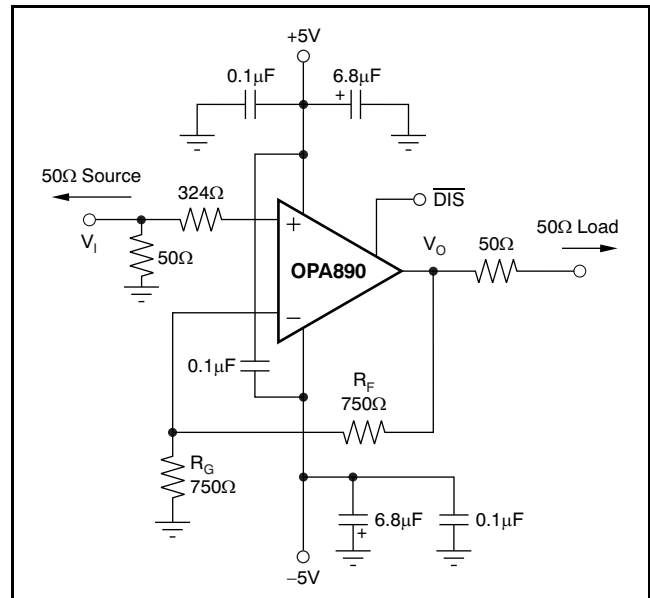
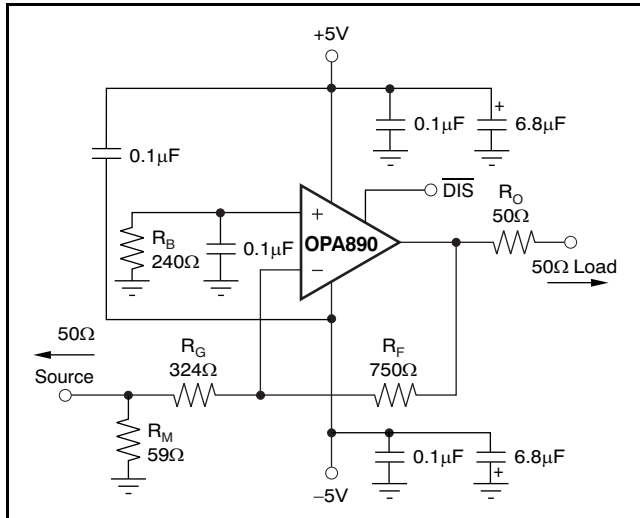

Figure 46. DC-Coupled, G = +2, Bipolar Supply, Specification and Test Circuit
Figure 51. Gain of $-2V/V$ Example Circuit
Figure 46 shows the dc-coupled, gain of +2, dual power-supply circuit configuration used as the basis of the ±5V Electrical Characteristics and Typical Characteristics. For test purposes, the input impedance is set to 50Ω with a resistor to ground and the output impedance is set to 50Ω with a series output resistor. Voltage swings reported in the Typical Characteristics are taken directly at the input and output pins, while output powers (dBm) are at the matched 50Ω load. For the circuit of Figure 46, the total effective load will be 100Ω – 1.5kΩ. The disable control line is typically left open to ensure normal amplifier operation. Two optional components are included in Figure 46. An additional resistor (324Ω) is included in series with the noninverting input. Combined with the 25Ω dc source resistance looking back towards the signal generator, this configuration gives an input bias current cancelling resistance that matches the 375Ω source resistance seen at the inverting input (see the DC Accuracy and Offset Control section). In addition to the usual power-supply decoupling capacitors to ground, a 0.1μF capacitor is included between the two power-supply pins. In practical printed circuit board (PCB) layouts, this optional-added capacitor typically improves the 2nd-harmonic distortion performance by 3dB to 6dB.
Voltage-feedback op amps exhibit decreasing closed-loop bandwidth as the signal gain is increased. In theory, this relationship is described by the gain bandwidth product (GBP) shown in the *Electrical Characteristics*. Ideally, dividing GBP by the noninverting signal gain (also called the noise gain, or NG) predicts the closed-loop bandwidth. In practice, this relationship only holds true when the phase margin approaches 90° , as it does in high-gain configurations. At low gains (increased feedback factors), most amplifiers exhibit a more complex response with lower phase margin. The OPA890 is compensated to give a slightly peaked response in a noninverting gain of $2V/V$ (see Figure 46). This compensation results in a typical gain of $+2V/V$ bandwidth of $115MHz$, far exceeding that predicted by dividing the $130MHz$ GBP by 2. Increasing the gain causes the phase margin to approach 90° and
The OPA890 is a general-purpose, wideband voltage-feedback op amp; therefore, all of the familiar op amp application circuits are available to the designer. Inverting operation is one of the more common requirements and offers several performance benefits. Figure 51 shows a typical inverting configuration where the I/O impedances and signal gain from Figure 46 are retained in an inverting circuit configuration.
In the inverting configuration, three key design considerations must be noted. First, the gain resistor (R_G) becomes part of the signal channel input impedance. If input impedance matching is desired (which is beneficial whenever the signal is coupled through a cable, twisted-pair, long PCB trace, or other transmission line conductor), R_G may be set equal to the required termination value and R_F adjusted to give the desired gain. This approach is the simplest, and results in optimum bandwidth and noise performance. However, at low inverting gains, the resultant feedback resistor value can present a significant load to the amplifier output. For an inverting gain of $-2V/V$, setting R_G to 50Ω for input matching eliminates the need for R_M but requires a 100Ω feedback resistor. This option has the interesting advantage that the noise gain becomes equal to $2V/V$ for a 50Ω source impedance—the same as the noninverting circuits considered in the previous section. The amplifier output, however, now sees the 100Ω feedback resistor in parallel with the external load. In general, the feedback resistor should be limited to a range of 200Ω to $1.5k\Omega$. In this case, it is preferable to increase both the R_F and R_G values, as shown in Figure 51, and then achieve the input matching impedance with a third resistor (R_M) to ground. The total input impedance becomes the parallel combination of R_G and R_M .
The second major consideration, touched on in the previous paragraph, is that the signal source impedance becomes part of the noise gain equation and influences the bandwidth. For the example in Figure 51, the R_M value combines in parallel with the external 50Ω source impedance, yielding an effective driving impedance of $50\Omega \parallel 59\Omega = 27\Omega$. This impedance is added in series with R_G for calculating the noise gain (NG). The resulting NG is $3.14V/V$ for Figure 51, as opposed to only 2 if R_M could be eliminated as discussed previously. The bandwidth is therefore slightly lower for the gain of $-2V/V$ circuit of Figure 51 than for the gain of $+2V/V$ circuit of Figure 46.
The third important consideration in inverting amplifier design is setting the bias current cancellation resistor on the noninverting input (R_B). If this resistor is set equal to the total dc resistance looking out of the inverting node, the output dc error (because of the input bias currents) is reduced to $(\text{Input Offset Current}) \times R_F$. If the 50Ω source impedance is dc-coupled in Figure 51, the total resistance to ground on the inverting input is 351Ω . Combining this resistance in parallel with the feedback resistor gives the value of $R_B = 240\Omega$ used in this example. To reduce the additional high-frequency noise introduced by this resistor, it is sometimes bypassed with a capacitor. As long as $R_B < 350\Omega$, a capacitor is not required because the total noise contribution of all other terms is less than that of the op amp input noise voltage. As a minimum, the OPA890 requires an R_B value of 50Ω to damp out parasitic-induced peaking—a direct short to ground on the noninverting input runs the risk of a very high-frequency instability in the input stage.
Evaluating these two equations for the OPA890 circuit and component values (see Figure 46) gives a total output spot noise voltage of 17.4nV/√Hz and a total equivalent input spot noise voltage of 8.7nV/√Hz. This total includes the noise added by the bias current cancellation resistor (175Ω) on the noninverting input. This total input-referred spot noise voltage is only slightly higher than the 8nV/√Hz specification for the op amp voltage noise alone. This result will be the case, as long as the impedances appearing at each op amp input are limited to the previously recommend maximum value of 350Ω. Keeping both $(R_F \parallel R_G)$ and the noninverting input source impedance less than 350Ω satisfies both noise and frequency response flatness considerations. Because the resistor-induced noise is relatively negligible, additional capacitive decoupling across the bias current cancellation resistor (R_B) for the inverting op amp configuration of Figure 51 is not required.
The balanced input stage of a wideband voltage-feedback op amp allows good output dc accuracy in a wide variety of applications. The power-supply current trim for the OPA890 gives even tighter control than comparable amplifiers. Although the high-speed input stage does require relatively high input bias current (+25°C worst case, 1.6μA at each input terminal), the close matching between them may be used to reduce the output dc error caused by this current. The total output offset voltage may be considerably reduced by matching the dc source resistances appearing at the two inputs. This matching reduces the output dc error resulting from the input bias currents to the offset current times the feedback resistor. Evaluating the configuration of Figure 46, and using worst-case +25°C input offset voltage and current specifications, gives a worst-case output offset voltage equal to: